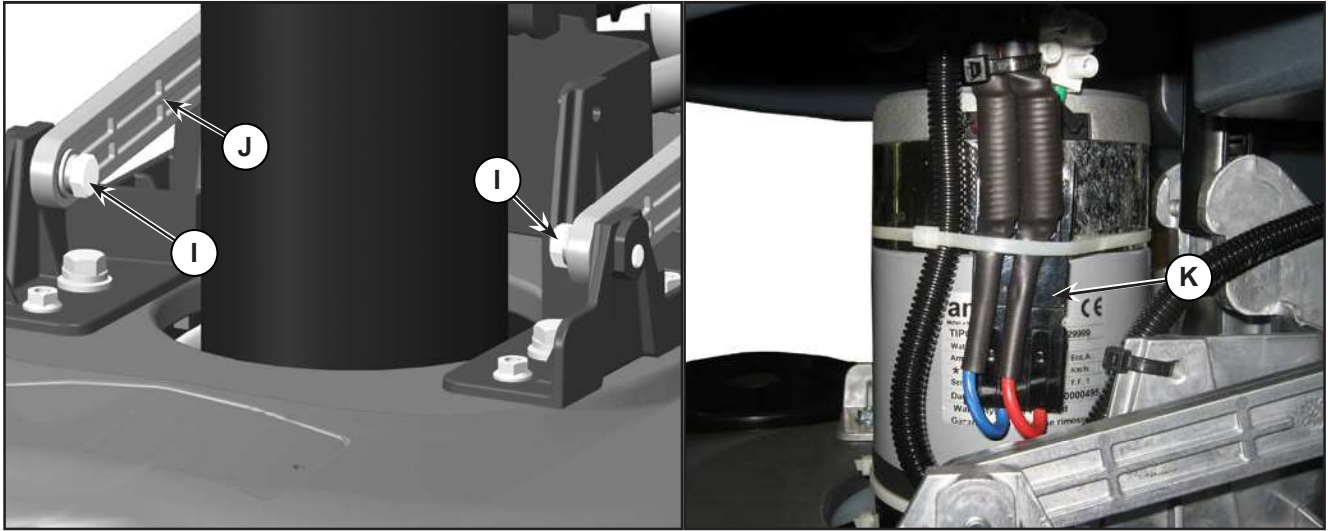

Figure 9:
9. Remove the 2 screws (I) (Figure 9) fastening the deck raising levers (J), retaining the bushings and washers.
10. Disconnect the REV motor power supply connections (K).